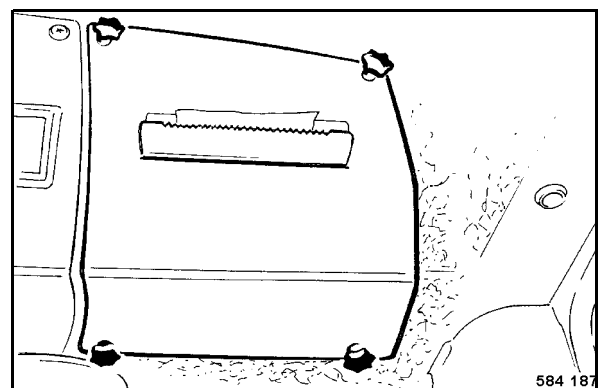

Fig. 106
- Unscrew the star handles (Fig. 106) and remove the cover.